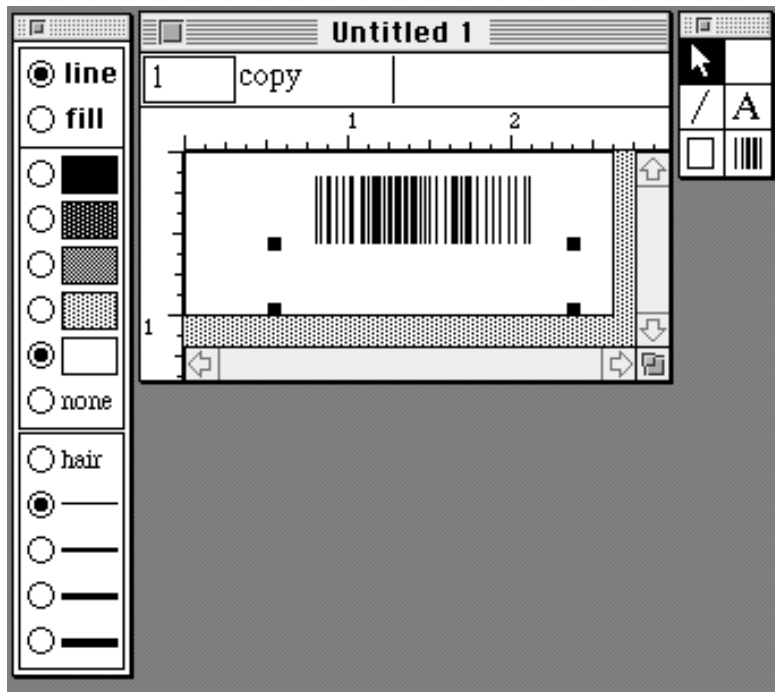

Figure 6-24 UPC-A Bar Code with Embedded Text Covered by Rectangle Object
6. Resize and adjust as necessary. Figure 6-24 illustrates a UPC-A bar code with the embedded text covered by a rectangle object.